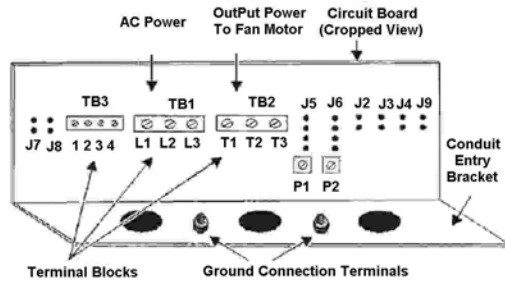
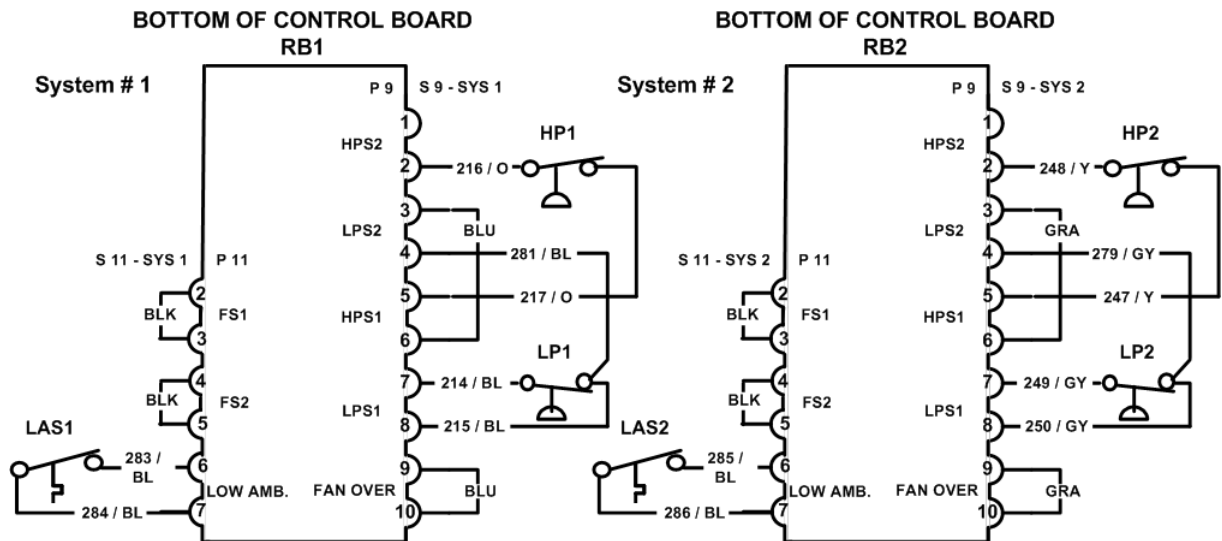

FIGURE 5 - VFD66 CONTROL TERMINAL BLOCKS
FIGURE 10 - LAS-LOW AMBIENT SWITCH WIRING LOCATIONS
8. Access the VFD66 control terminal blocks. See Figure 5.
11. Wire condenser fan motor #1 to the VFD66 control. See Figures 5, 7, and the wiring diagrams in Figures 10,11 and 12. The VFD66 must be wired to operate fan motor #1. Factory installed pressure switches control fan motor #2.
13. Remove existing low ambient switch (LAS)(See Fig. 10), located in the unit control box, and replace with new 0° ambient switch (provided).